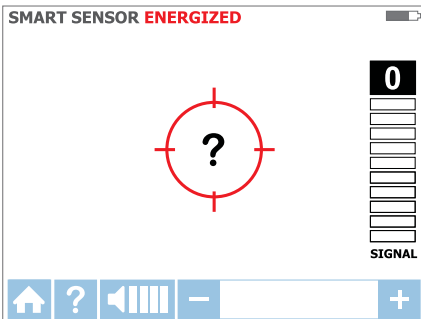

Figure 3.1d: No signal detected
3. Hold the Receiver with the Smart Sensor™ facing the target area. If the screen flashes a “?” in a red target then no signal is detected (Figure 3.1d). Move the Smart Sensor™ closer to the target area until the signal is detected and you see a directional arrow. If no signal is detected increase the sensitivity using the “+” button on the Receiver.*